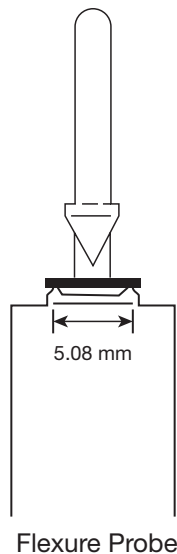

Figure 1.
Heat Deflection Temperature (HDT) and Deflection Temperature Under Load (DTUL) are equivalent terms that reflect the temperature at which a material subjected to a three-point bending load deforms to a pre-determined position. The actual force applied to the sample and the amount of deflection required depend upon the sample geometry. ASTM D648 defines a standard set of these parameters. However, alternative arrangements such as the TMA flexure probe configuration (Figure 1) can be used to simulate this ASTM method, using the procedure described below.
- L = Sample length = 5.08 mm (as defined by the flexure probe geometry, see Figure 1)